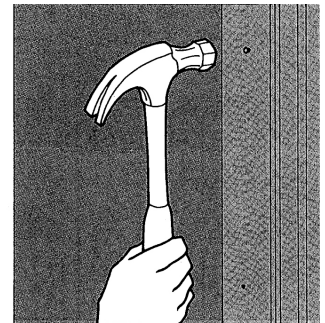

Figure 3G-1
3. Drive the nails through the trim boards and the steel flange of the Door, at the marked positions, to secure it firmly to the wall (Figure 3G-1).